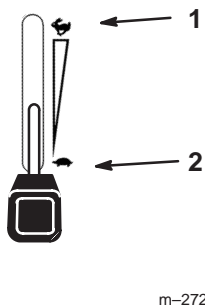

Figure 18
- Move the throttle lever to **slow** (Fig. 18).